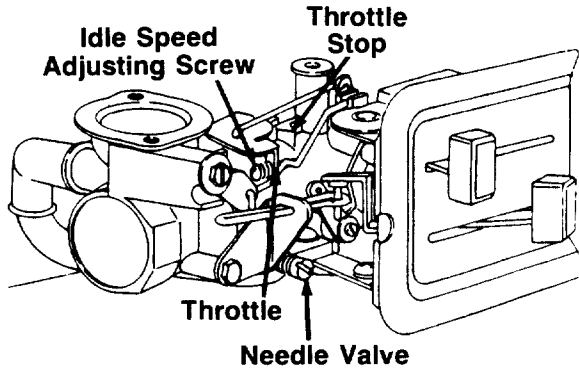

FIGURE 22.
- Close needle valve (see figure 22) clockwise (↻) finger tight only. Forcing may cause damage. Then open 1½ turns counterclockwise (↺).